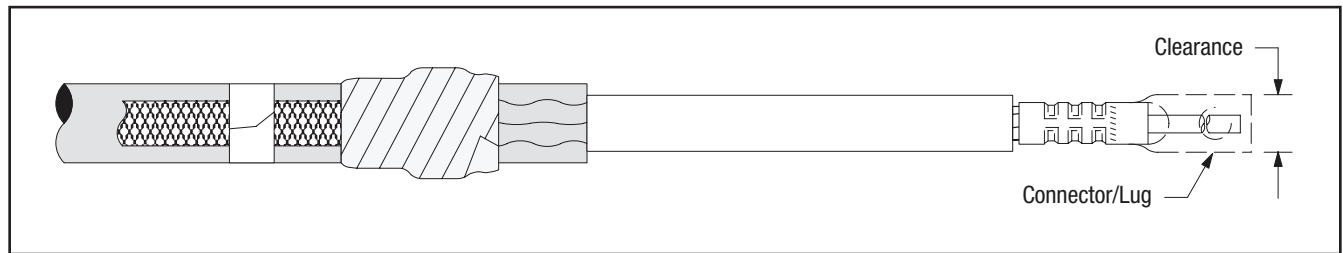

Figure 22
- 14.1 Check to insure 3M™ Cold Shrink QT-III Silicone Rubber Termination assembly fits over the selected lug or connector. If lug or connector (*Figure 22*) will not fit through the termination core, clean the insulation (*per Step 15.0*) and slide termination on cable before installing lug or connector. **DO NOT REMOVE CORE AT THIS TIME.**